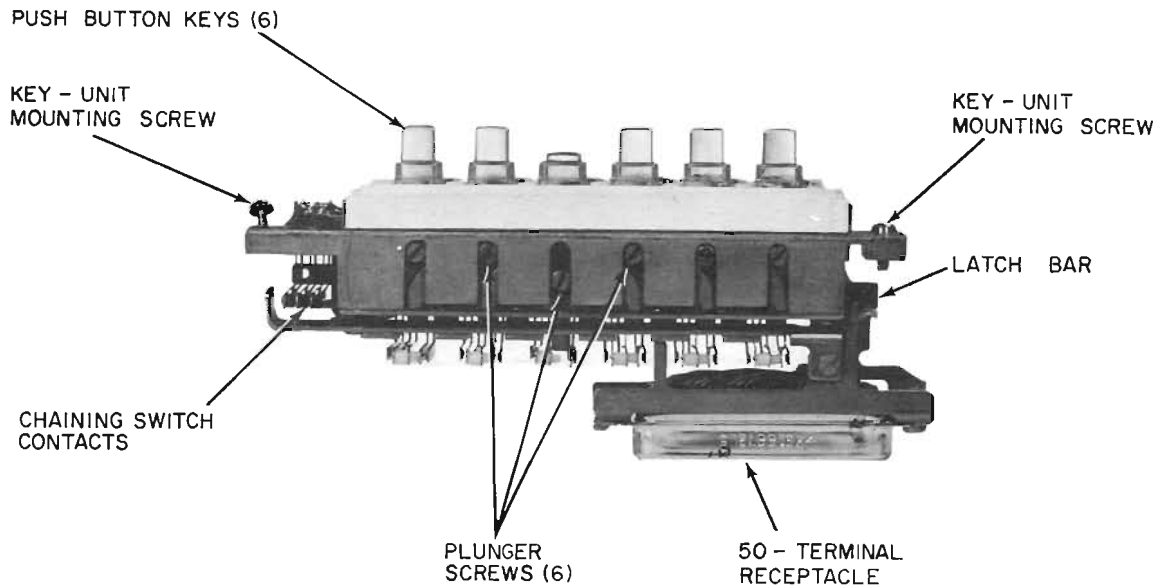

Figure 2. Key-Strip Unit Comprising Six Line Pickup Keys.
2.05 Each vertical row of six keys is made up of a key-strip unit (Figure 2). Each key-strip unit is equipped with a 50-terminal receptacle through which all connections to the key-strip unit are made. No other wiring is required. These receptacles connect directly to 50-terminal plugs which are fastened to the key frame assembly. There are three 50-terminal plugs, one for each key-strip unit. Not all terminals on any plug are used.